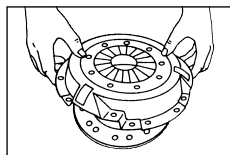

Fig. 1
1. Place the pressure plate on top of the clutch plate (Fig. 1).